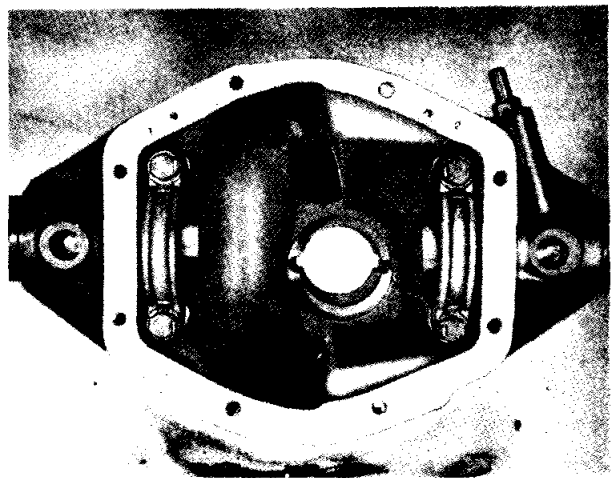

Fig. 12 Identification numbers on bearing caps and axle casing. Note also the tops of washers laying in groove of bearing cap.
- (h) Remove the differential bearing caps, noting the markings stamped on the top of these and the correspondingly abutting portions of the casing. The existing relation between the caps and casing must be retained when re-assembling. Fig. 12 shows example of markings.